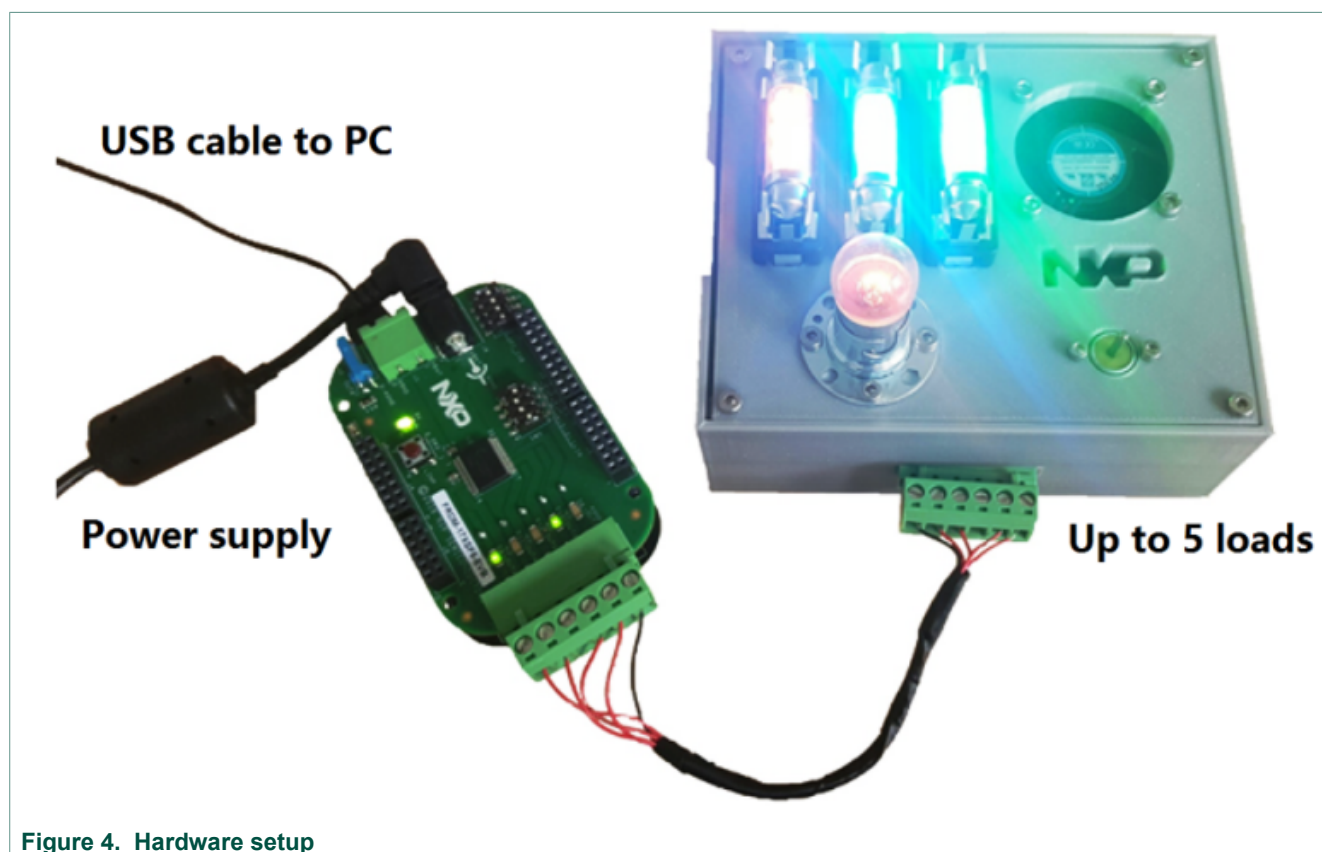
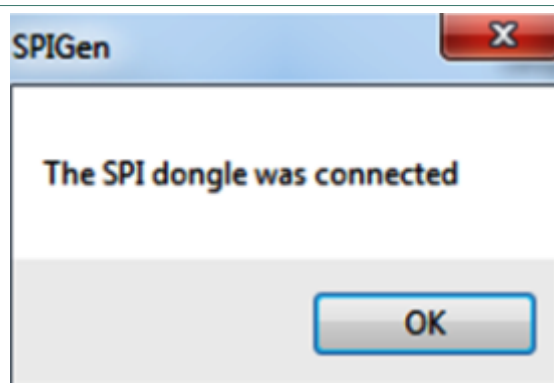

Figure 4. Hardware setup
Figure 5. FRDM-KL25Z connected
4. Connect the KL25Z to the PC using the USB KL25Z port (left side of SW1). The hardware connection is shown in Figure 4. A window pops up on the SPIGEN GUI as shown in Figure 5.